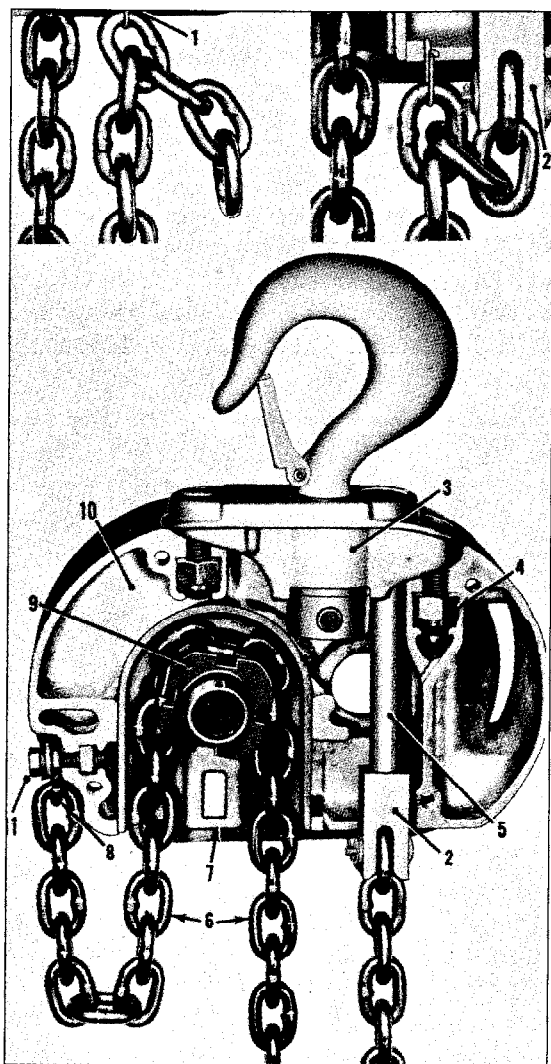
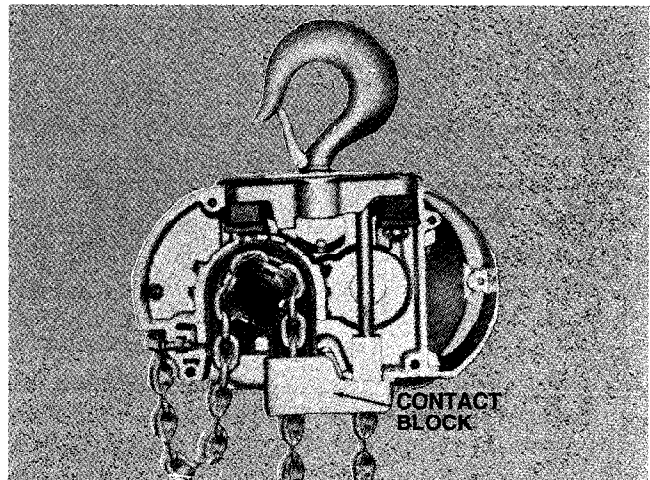

Figure 7. Attaching Load Chain
Figure 8. Contact Block Used On Models R, R-2, RR and RR-2
Remove the hook or lug suspension from its carton and the two suspension screws, dead end pin, washer and cotter pin. It should be noted that the suspension includes a dead end bolt and block for supporting the dead end of the load chain as shown in Figure 7.
Place the suspension assembly into the recess on top of the hoist. The dead end block should project through the bottom of the hoist with the pin hole and slot aligned to the underside of the hoist as shown in Figure 7. If these are not aligned as shown, lift the head of the bolt from the hex recess in the adapter and turn the bolt and block assembly and reseat the bolt head to obtain the proper alignment. **Do not** change the position of the dead end block on the bolt to attain this alignment.
The Models E, E-2, H, H-2, R, R-2 and RR-2 are shipped with the dead end of the load chain temporarily connected to the bottom of the hoist by a light wire clip (1) as shown in Figure 7. The clip is located a few links from the end of the chain, and it should not be removed until the chain is to be attached to the dead end block (2). To attach the chain to the dead end block, proceed as follows:
2. The hoist is shipped with the dead end of the load chain temporarily positioned a few links from the end by a light wire clip (1) as shown in Figure 7. Do not remove this clip until the chain is secured.
3. On Models E, E-2, H and H-2, insert the last link of the load chain into the dead end block (2) and secure it with the dead pin, washer and cotter pin furnished with the suspension. Remove the clip (1) by inserting a screw driver blade through a chain link and levering against the bottom of the hoist.
clip (1) by inserting a screw driver blade through a chain link and levering against the bottom of the hoist. Slide the contact block up the chain until it is against the bottom of the hoist and the dead end block is projecting through the square opening in the bottom of the block. Insert the last link of the load chain, making sure there are no twists between the hook block and the dead end block, into the dead end block. Push the contact block up slightly and secure the load chain to the dead end block using the dead end pin, washer and cotter pin furnished with the suspension. The dead end pin also supports the contact block (See Figure 8).